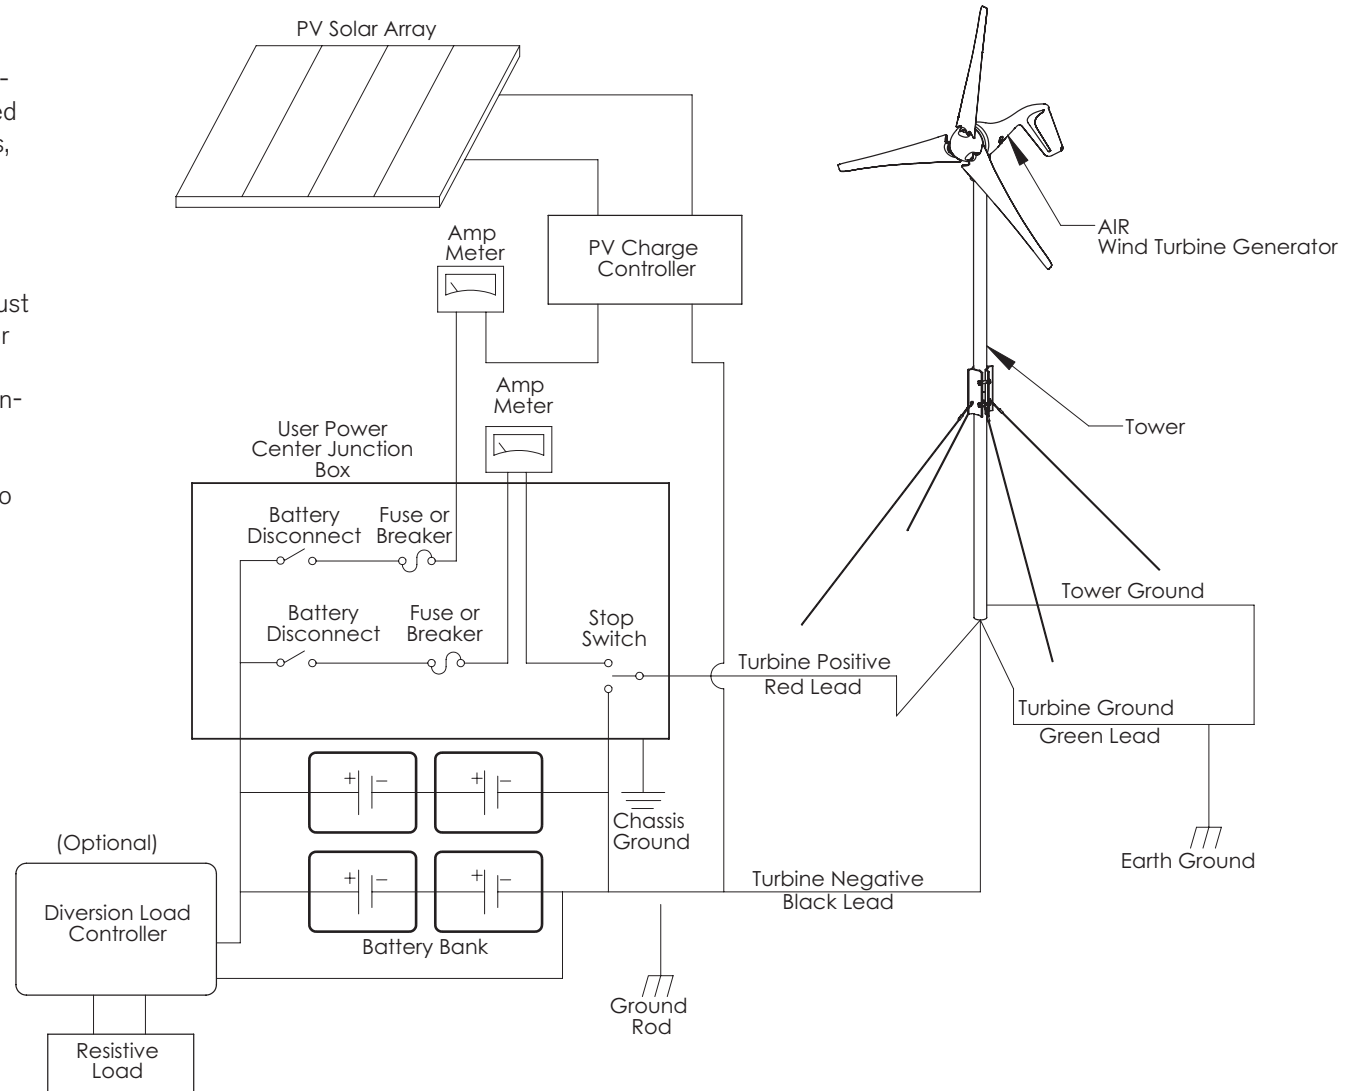

Fig. 11. Hybrid System with Solar Panels
**Fig. 11** represents a typical “hybrid” system with solar panels. Some charging sources (solar panels, fuel-powered generators, additional wind generators, etc.) connected to the same system may cause interference with the AIR wind turbine internal electronics and result in pre-regulation. The interference will not harm the turbine; it will just cause it to spin slowly as if “braked” or it may stop the turbine. If this occurs, test for possible interference by disconnecting the other charging sources to determine the possible cause. If possible wire the turbine and PV panels to their own set of battery posts.